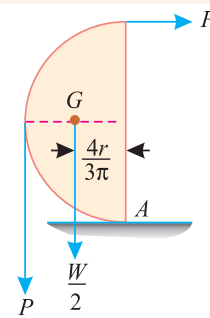

Fig. 3.7.
**Solution.** The free body diagram of one of the halves of the cylinder with minimum value of  $P$  is shown in Fig. 3.7